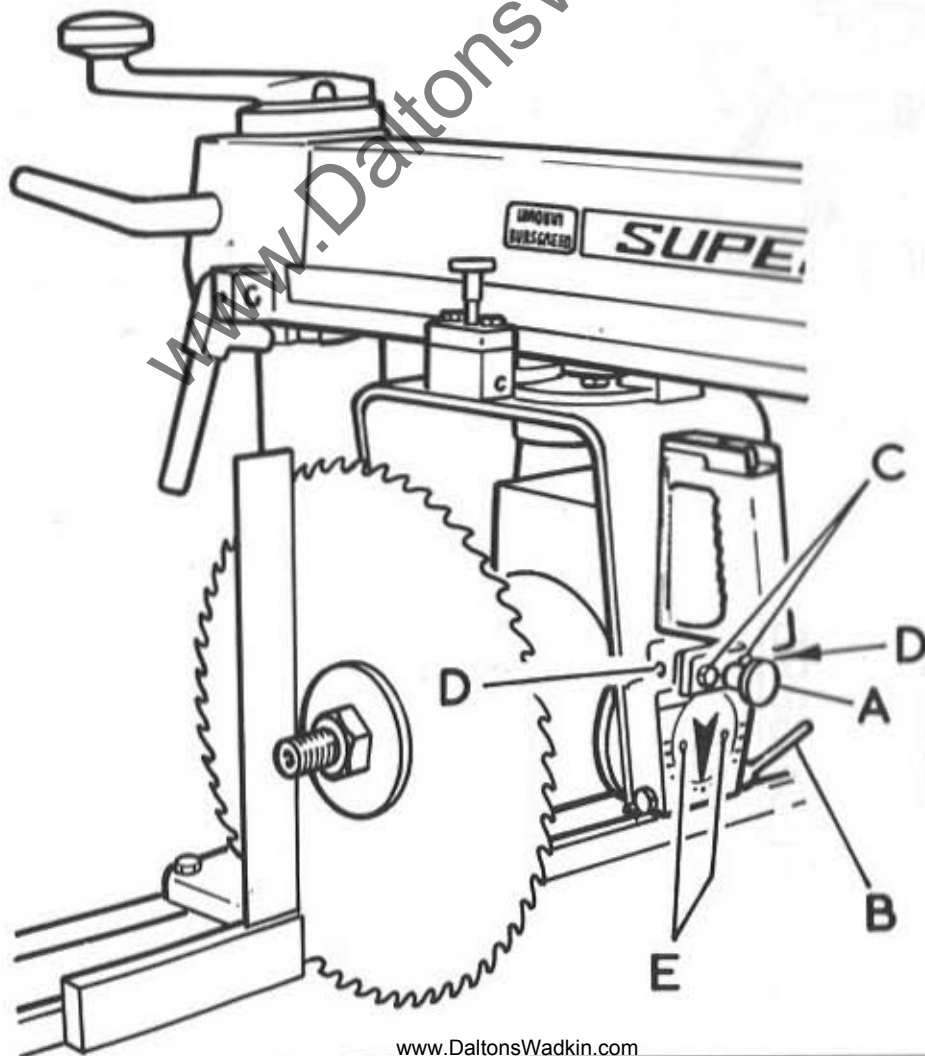

FIG. 6.
1. To check this alignment, place a steel square against the saw as shown in Fig. 6 . If adjustment is necessary disengage the motor locating plunger "A" in Fig. 6 , loosen motor pivot locking handle "B" and adjust sawblade until square. Lock in this position with handle "B": Loosen two hexagon head bolts "C" and adjust two socket head grub screws "D" until locating plunger locates accurately in motor locating ring. When set relock hexagon head bolts "C" .